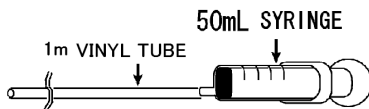

Fig. 3
- 1) Without connecting detector tube, make the position of Open/Shutoff valve ⑥ to (A) and open the Needle valve ⑤ fully. Adjust the 2nd pressure to a preset condition while looking at the 2nd pressure gauge ② through the pressure regulator ③.
- 2) Adjust the flow rate to the preset condition while looking at the Flow meter ④ though the Needle valve ⑤ and purge the air flow circuit for 1 minute as it is.
- 3) Connect 1m vinyl tube (as option) to a 50 mL syringe(as option) of which inner volume is at 0 mL, as shown in Fig. 3.